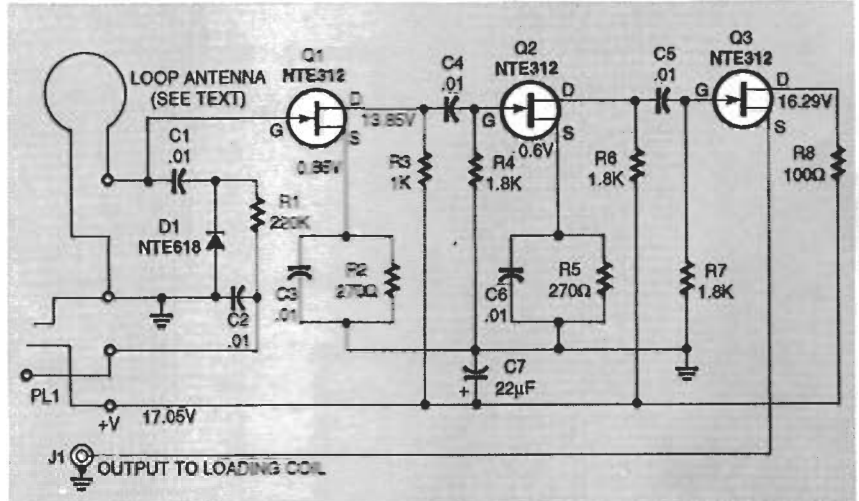
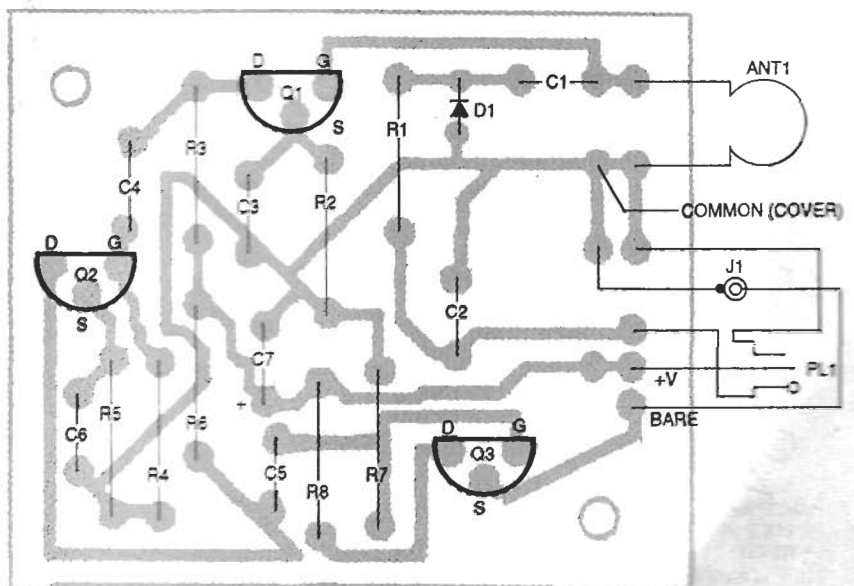
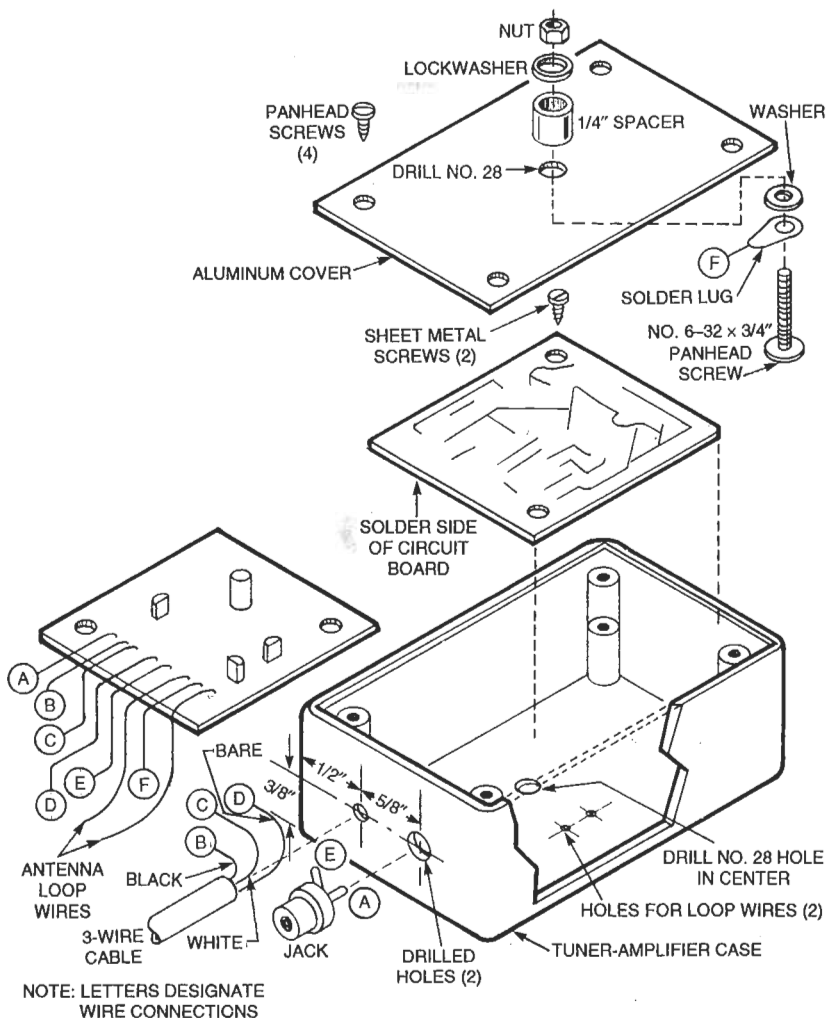

FIG. 2—TUNER-AMPLIFIER SCHEMATIC DIAGRAM: Three JFETs, Q1 to Q3, amplify the signal. Loop antenna tuning is performed by varactor diode D1.
FIG. 4—PARTS PLACEMENT DIAGRAM FOR TUNER-AMPLIFIER. Jack J1 and plug PL1 are mounted on the case.
FIG. 6—ASSEMBLY DIAGRAM FOR THE TUNER AMPLIFIER. The circuit board is mounted in an inverted position, and the complete unit moves with the loop antenna.
Figure 2 is the schematic for the tuner-amplifier. The loop antenna is connected to the gate input of transistor Q1, and it is tuned by varactor D1. Tuning voltage is available through R1, which is connected to the remote tuning control with a two-wire shielded cable and plug PL1. The drain output of Q1 is coupled to the gate of Q2 for ad-
At least a 17-volt output is needed to tune the loop over the entire AM broadcast band, but the distributed capacitances of each system and the varactors like D1 (see Fig. 2) are likely to vary. A voltage slightly higher than the minimum requirement assures adequate capacitance change to cover the entire AM band. The voltage values to be expected at various test points in this circuit are also given to two decimal places on this schematic.
**Tuner-amplifier**—Refer to Fig. 2 and the tuner-amplifier parts-placement diagram Fig. 4. A foil pattern for the tuner-amplifier circuit board is included in this article if you want to make your own, but a finished board is available.
**Tuner-amplifier.** The tuner-amplifier case is a stock project case with an aluminum cover that measures  $2\frac{1}{16} \times 1\frac{1}{16}$  inches. Refer to the assembly diagram Fig. 6, and drill a hole in the center of the cover with a No. 28 drill.
hookup wire and solder a lug to one end. Place the lug on a No. 6-32  $\times \frac{3}{4}$ -inch panhead machine screw as shown in Fig. 6, and assemble a washer before inserting it in the hole and fastening it with a  $\frac{1}{4}$ -inch spacer, lockwasher, and nut, as shown. (The free end of the wire will be connected to the ground bus on the circuit board later.)
Drill the five holes in the plastic case as shown in Fig. 6. The central hole in the case must align with the hole in the cover plate. Install the RCA-type phono cable jack J1 in one hole, and insert a 1/4-inch ID rubber grommet in the other hole.
Insert the end of the ten-foot, two-wire shielded cable in the grommet and strip the jacket to permit making the three connections as shown in Fig. 6.
Connect the center conductor of jack J1 (A to A in Fig. 6) to the PC board with about 2 3/4 inches of shielded cable. Keep the unshielded part of the center wire as short as possible on each end. Connect the shield to the ground connection on J1 and the other end to the ground bus on the board. Solder the wire from the solder lug on the cover to the circuit board (F to F in Fig. 6). (The leads from the loop antenna will be soldered later.) SET the tuner amplifier aside.
Secure the wires to the outside of the adapter and to the inside end wall of the case with hot beeswax. Solder them as shown in parts-placement diagram Fig. 4 and assembly diagram Fig. 6. Invert the circuit board and fasten it in position inside the case with two sheet